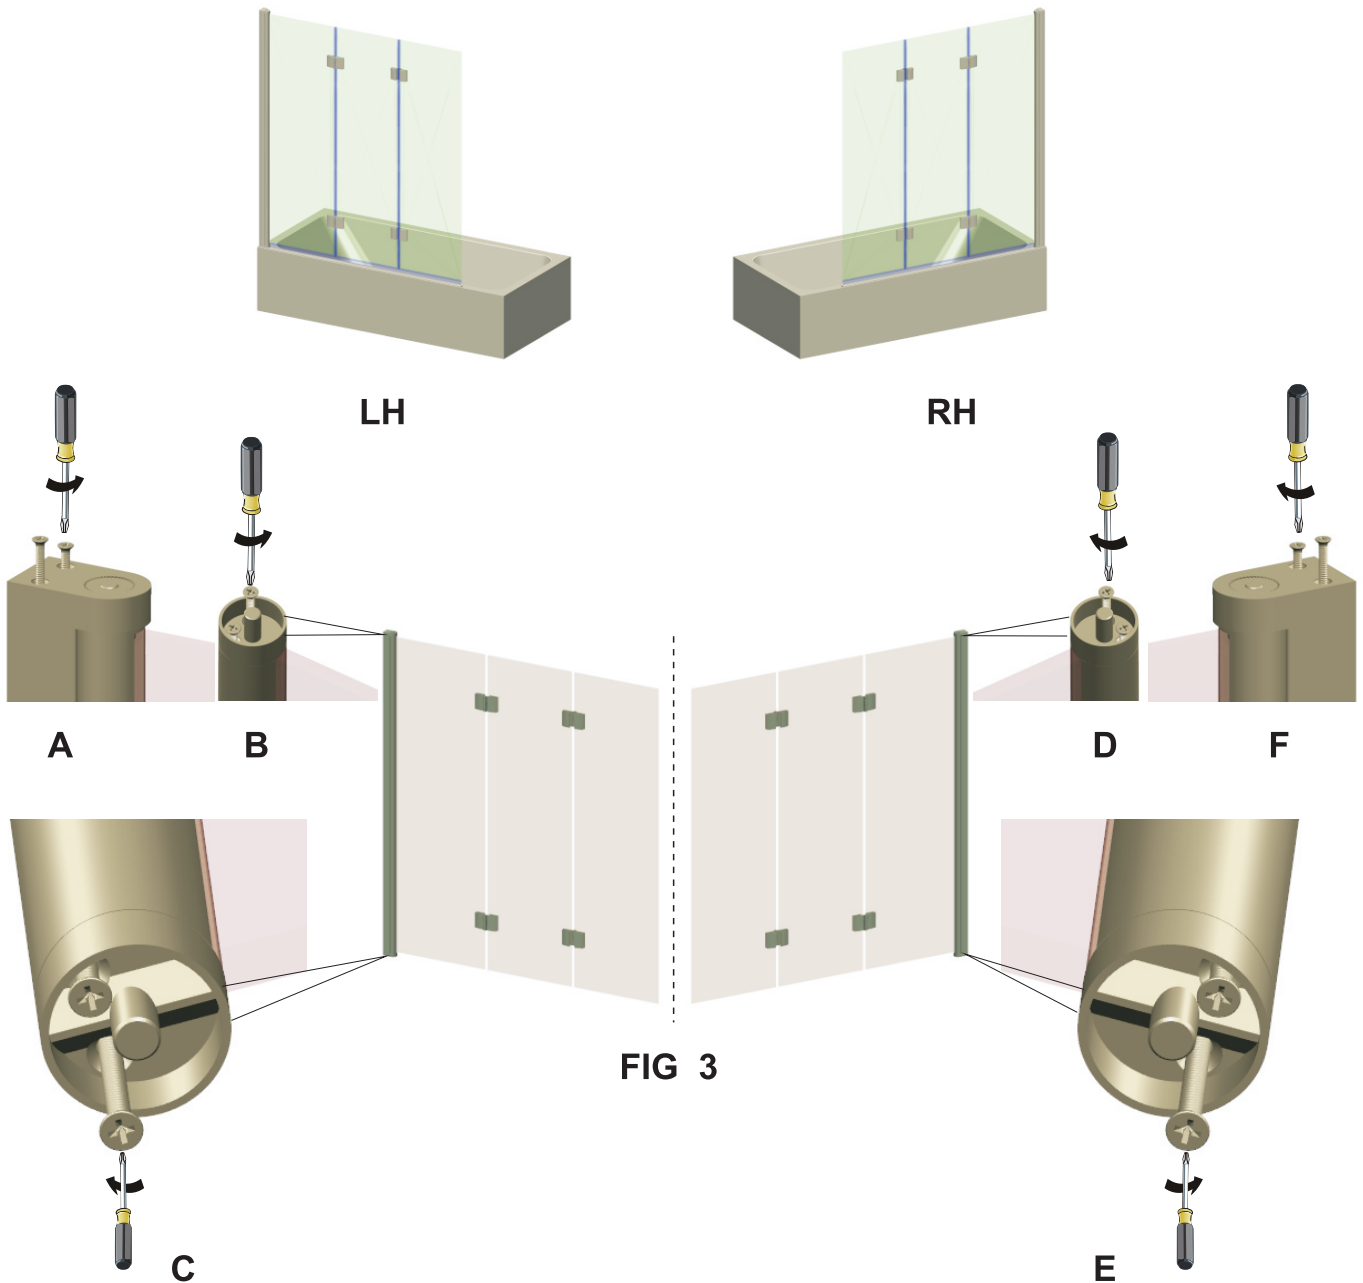

FIG 3
3. Ensure rising butt (Fig3/C) is to the bottom, if not reverse. by loosening screws as in A,B,C. And switch top and bottom as D,E,F. **Fig3**